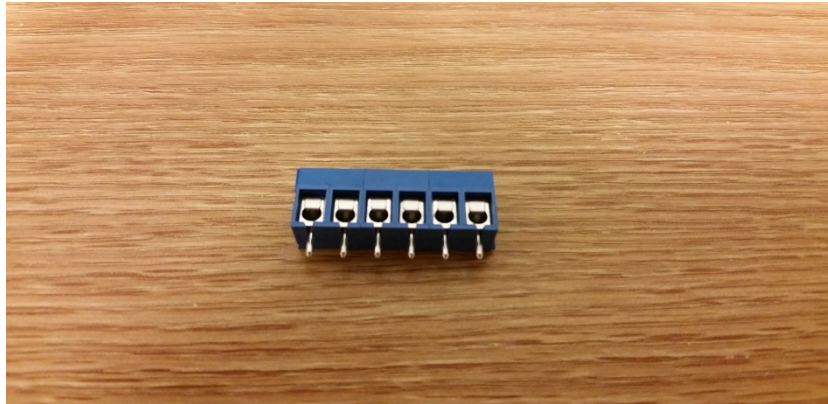

Figure 1: Terminal blocks in grouping of three
2. Unpack terminal blocks and connect to each other into two groups of three for each board (Fig 1)